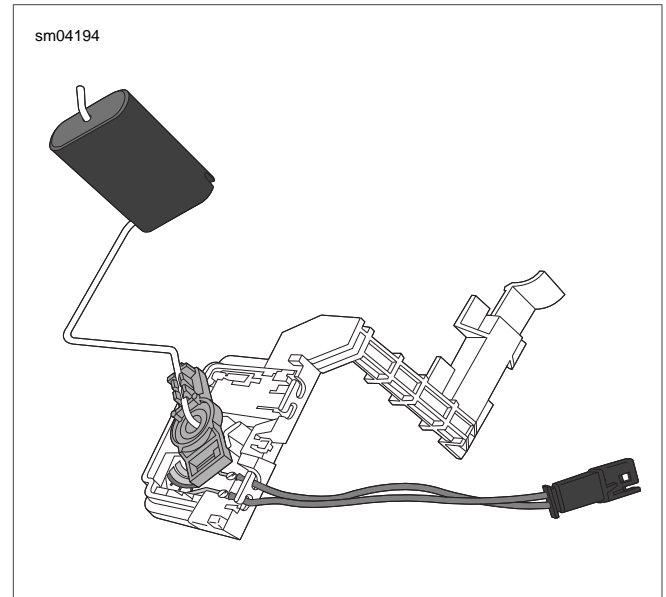

Figure 4-17. Fuel Level Sender
4. Remove fuel level sender from left side of fuel tank. See Figure 4-17.